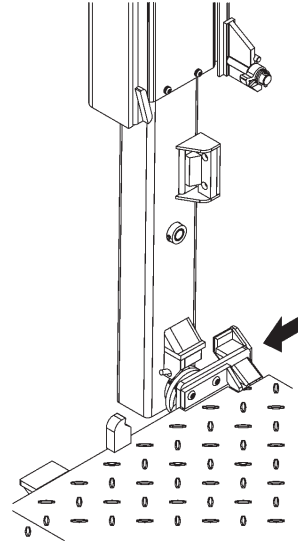

FIG. 34-1
31. Use a forklift or equivalent lifting device to lift platform and line it up with attaching points on the LH runner (**FIG. 34-1**) and RH runner.